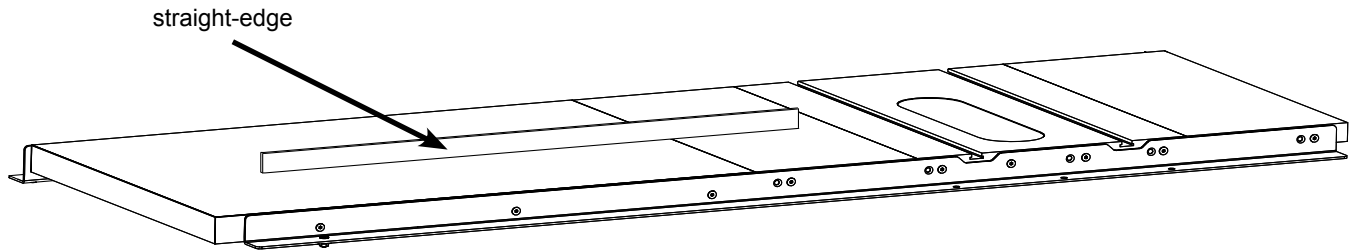
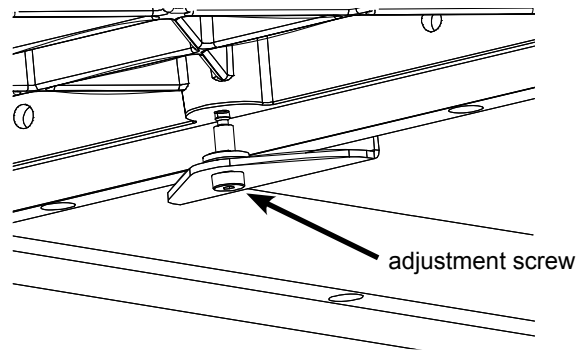

Fig. 15a
Fig. 15b
15. Place the straight-edge lengthwise across the middle of the table (see Fig. 15a) and level the middle of the extension table by turning the screw in the adjustment bracket with a 5 mm hex key (see Fig. 15b).